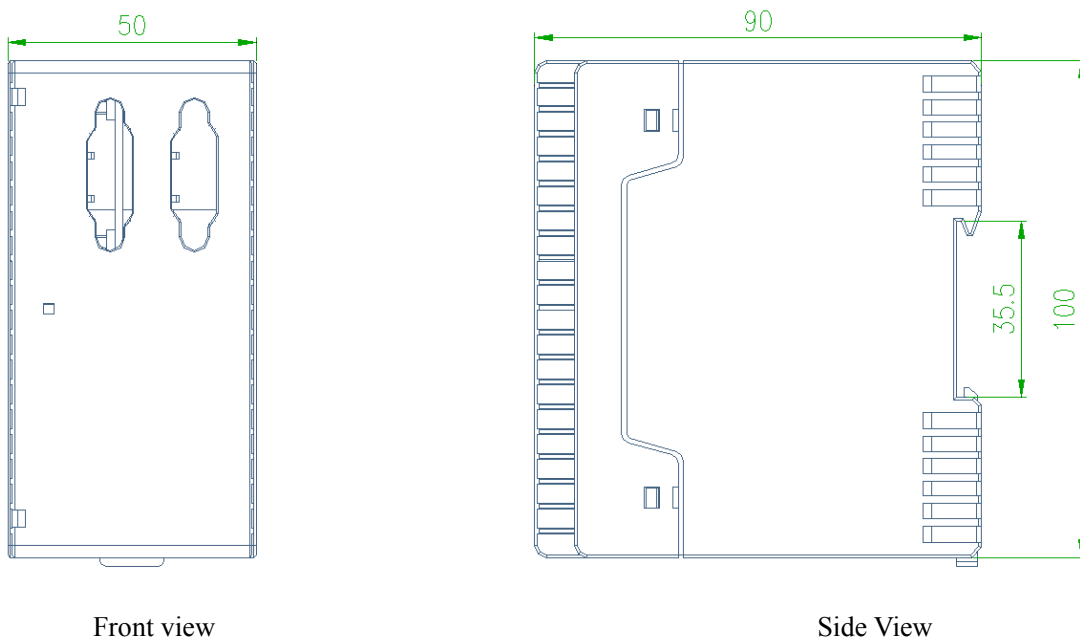

Figure 8 External dimensions of 2-channel PROFIBUS_DP communication module
5.2.3 The size of the dual-channel PROFIBUS_DP communication module is shown in Figure 8. The module is installed with guide rail: